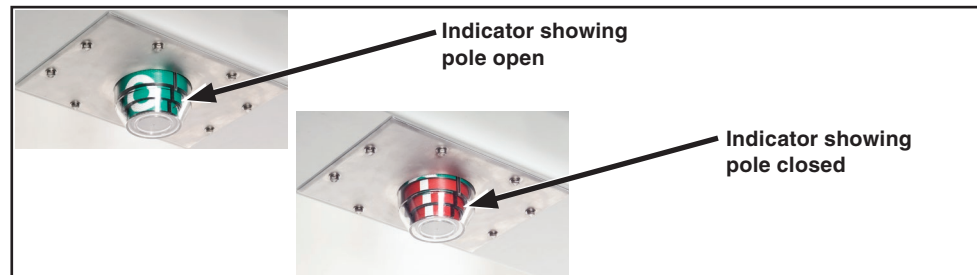
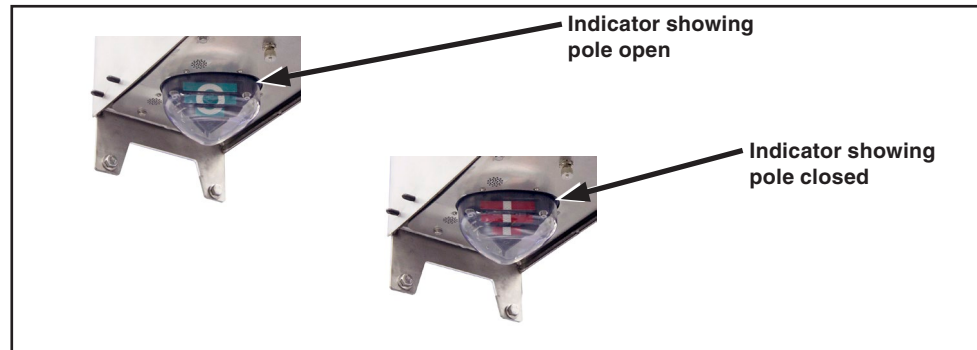

Figure 5. The 15.5-kV and 27-kV interrupter OPEN/CLOSED indicator, one at each pole.
Figure 6. The 38-kV interrupter OPEN/CLOSED indicator, one at each pole.
- STEP 4.** Check the interrupter OPEN/CLOSE indicator. See Figure 5 on page 10. They should show an “O” indication.
- STEP 5.** Check the interrupter OPEN/CLOSE indicators. See Figure 5 on page 10 and Figure 6 on page 10. They should show the “I” indication.
- STEP 4.** Check the interrupter OPEN/CLOSED indicators. See Figure 5 on page 10 and Figure 6 on page 10. They should show a “O” indication.
- STEP 9.** Check the interrupter OPEN/CLOSE indicators. See Figure 5 on page 10 and Figure 6 on page 10. They should show the “I” indication.